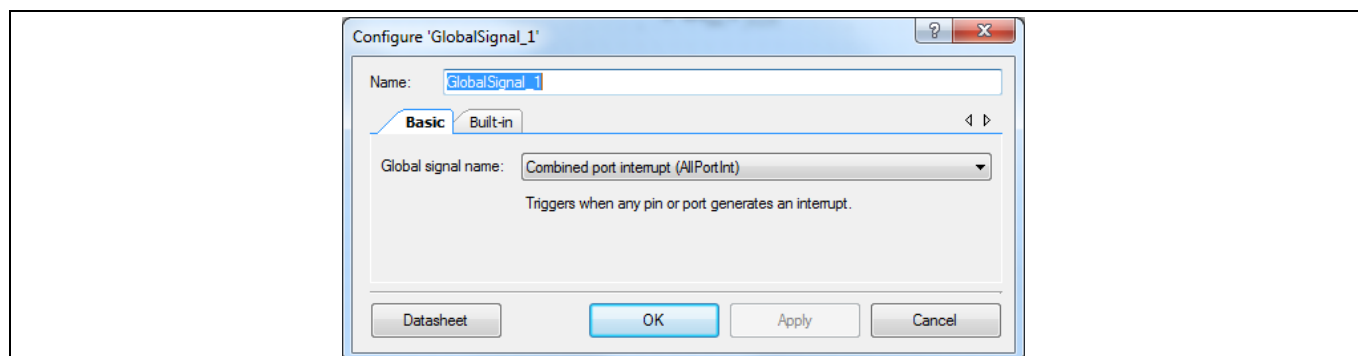

Figure 22 Placing a GlobalSignal component
3. Place a GlobalSignal Component and set it to “Combined port interrupt (AllPortInt)”, see Figure 22.